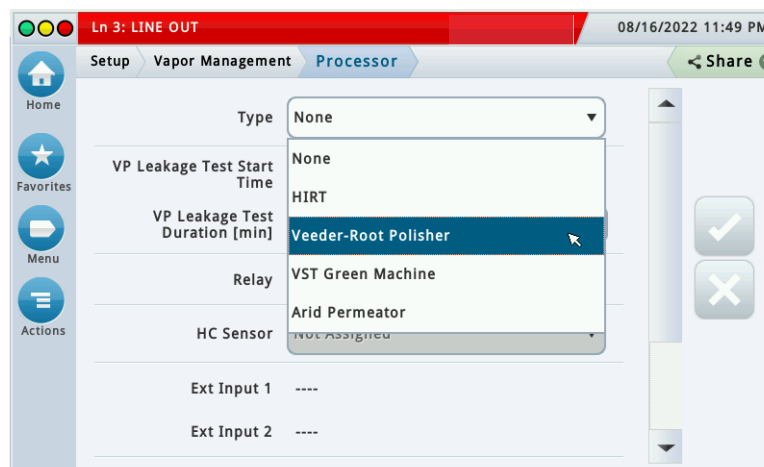

Figure 13. Vapor Management Processor Setup Screen - Page 1
2. Touch the Type drop-down box and select Veeder-Root Polisher (see Figure 13).